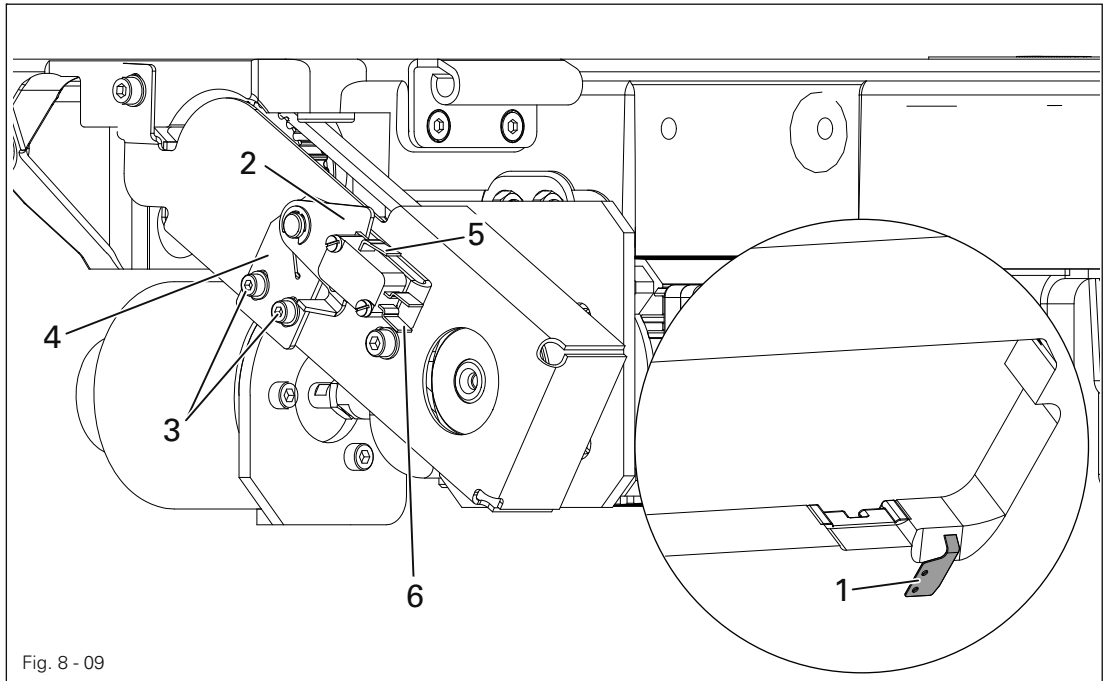

Fig. 8 - 09
- Remove pin 1 of the oil reservoir 2 (Fig. 8 - 08).